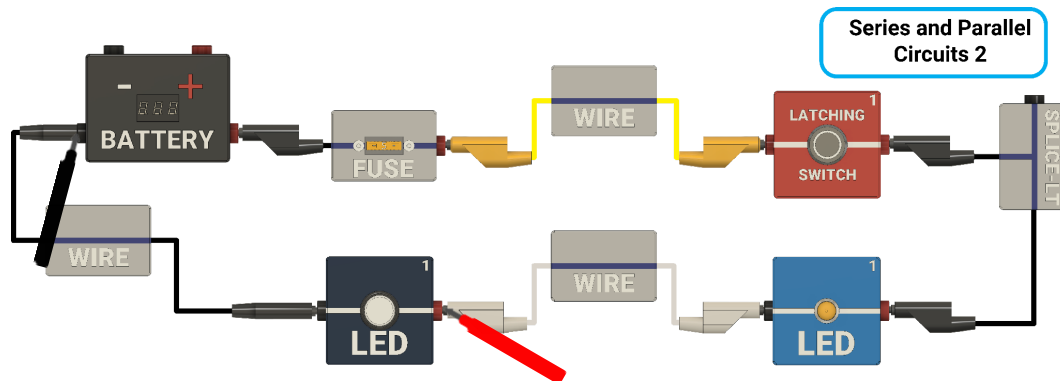

Figure 5: Voltage Measurement at large LED 1
- Move the multimeter's positive probe to the connection point just before large LED 1 (after small LED 1 but before large LED 1). See Figure 5